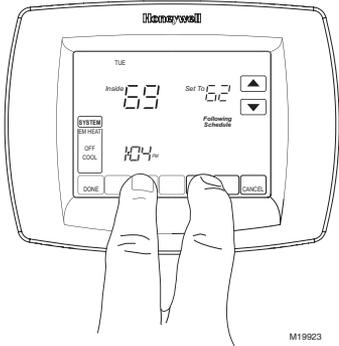

Fig. 16. Entering Installer Setup.
3. Five blank touch keys show on the bottom of the screen between the Done and Cancel keys. Press and hold the two blank keys on either side of the center blank key for approximately five seconds until screen changes. See Fig. 16.
The Installer Test is part of Installer Setup options. Enter Installer Setup screen and press Down arrow key to bring up test selection(s) quickly. See Fig. 16.